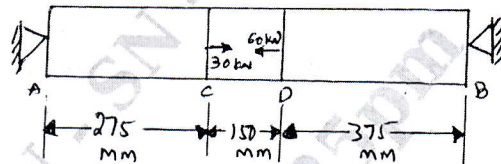

Fig.Q1(c)
- c. A bar of 800 mm length is attached rigidly at A and B as shown in Fig.Q1(c). Determine reaction at both ends and stress in each portion. Bar diameter is 25 mm and Young's modulus $E = 200$ MPa.